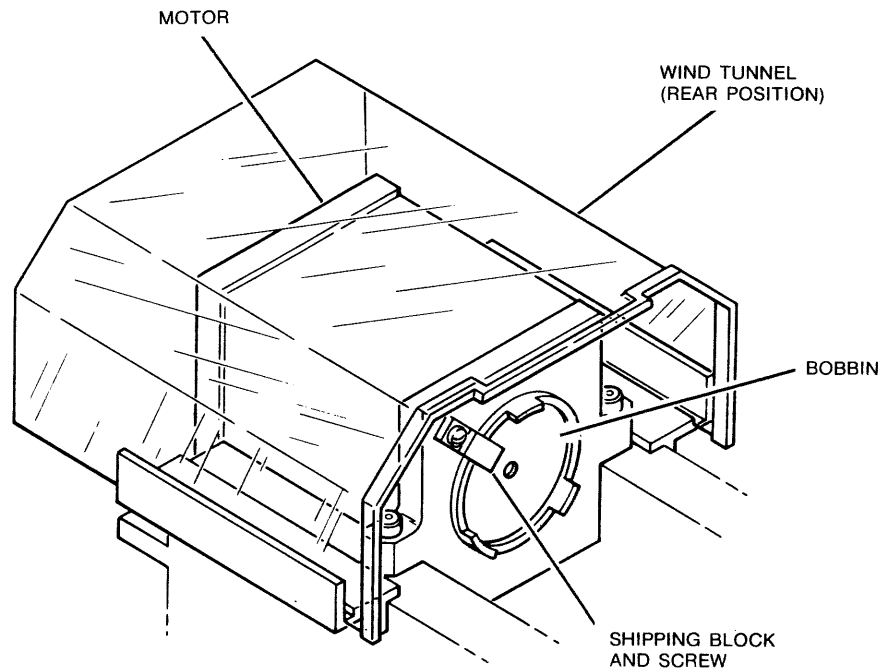

FIGURE 2-6. LINEAR MOTOR SHIPPING BLOCK
8. Remove shipping block on linear motor (see Figure 2-6).